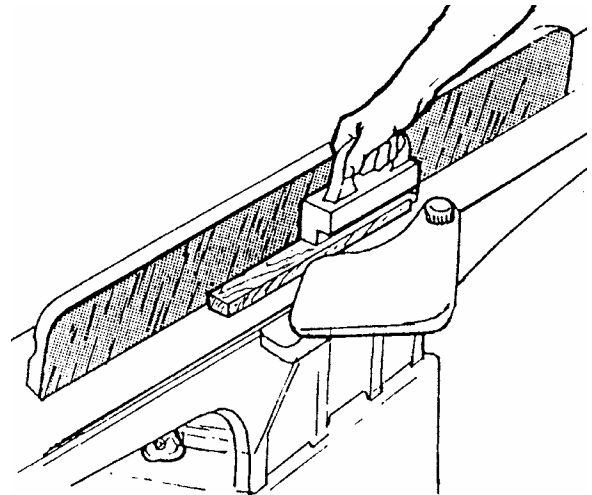

Figure 34
- ❑ With narrow stock use the type push block shown in Figure 34.